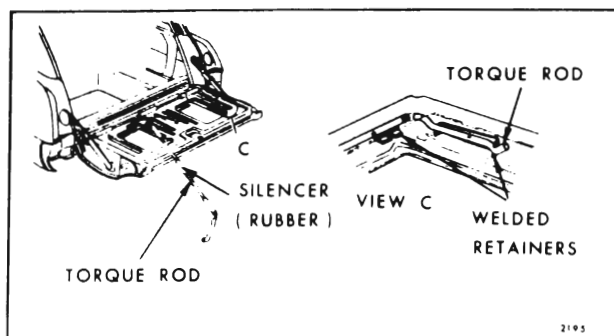

Fig. 9-22 — Tail Gate Torque Rod
3. On "B & A" Body Styles, disengage torque rod from welded retainers. (See View "C" in Fig. 9-22).
4. On "B & A" Body Styles, remove torque rod silencer (rubber) from left side of torque rod (exposed). Work torque rod out of opening on left side and remove rod through top of gate. (See Fig. 9-22).